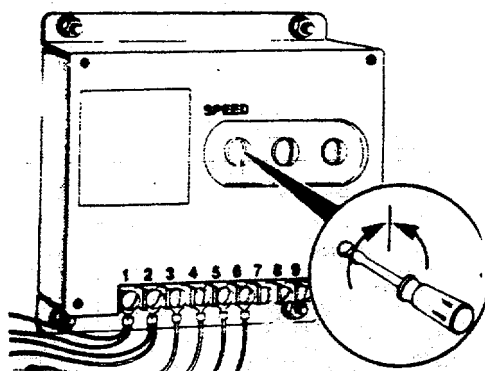

FIGURE 3-16. Frequency Trim Control Adjustment Setting.
- (3) Set the FREQUENCY TRIM CONTROL (if used) to approximately midpoint. (FIGURE 3-16)